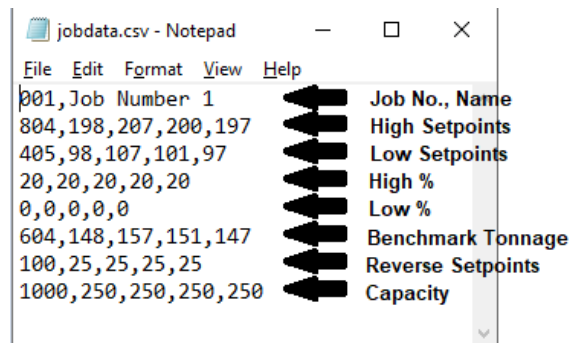

Figure 2-32: jobdata.csv File
- The "jobdata.csv" file contains the settings for the currently loaded job, as well as other data such as the job number and name, and the press capacity. A sample file is shown below in Figure 2-32.